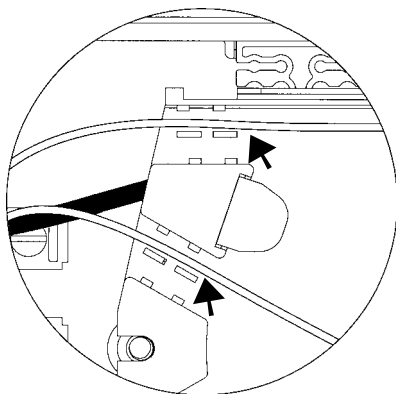

FIGURE 24 - MARK THE TUBES AT ENTRY SLOTS
- 10.04 Mark the buffer tubes or transport tubes at the inside end of the entry slots. (Figure 24)